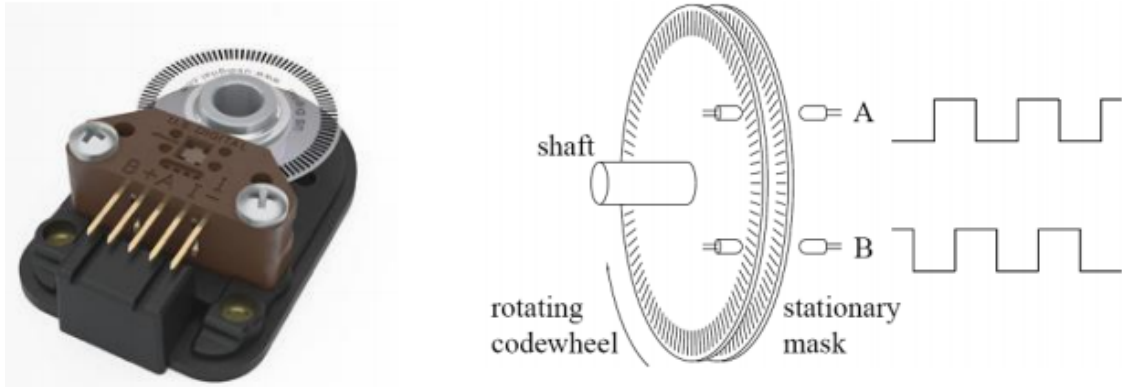

Fig. 1: Example of a wheel encoder used to sum pulses and compute the robot pose.
**Odometry** can be defined as the sum of wheel encoder pulses (see Fig. 1) to compute the robot pose. In this way, most robot bases/platforms provide some form of *odometry information*, a measurement of how much the robot has moved in reality.